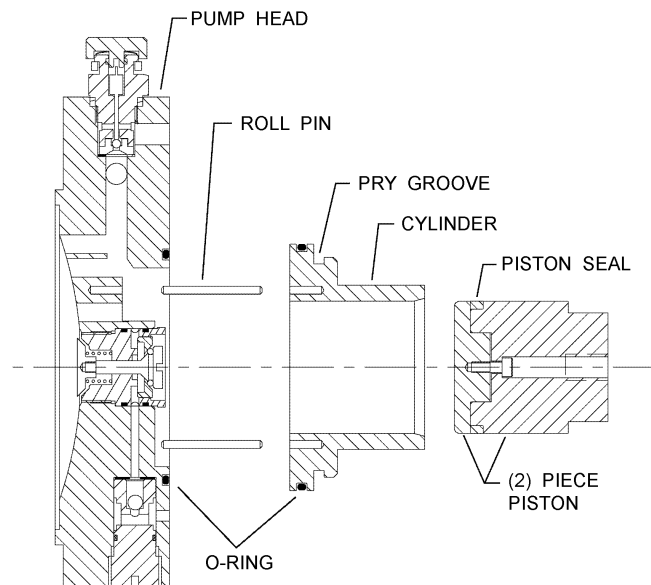

Figure 19
4. The cylinder is retained to the pump head by two roll pins. Separate the cylinder by prying on the groove above the o-ring (refer to **Figure 19**).